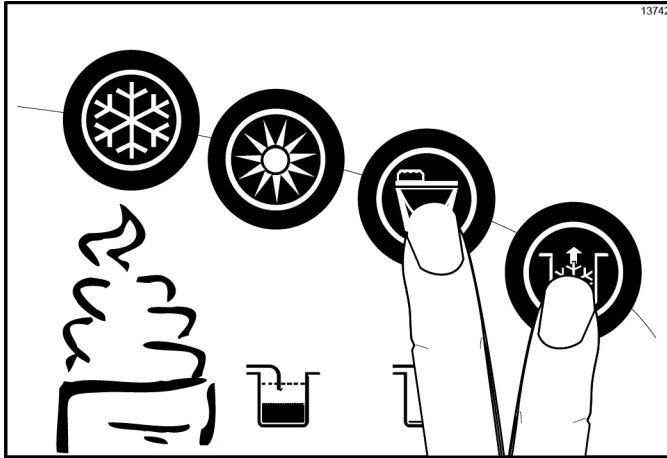

Figure 6-47
11. Press the Wash and Pump  keys and close the draw valve. (See Figure 6-47.)